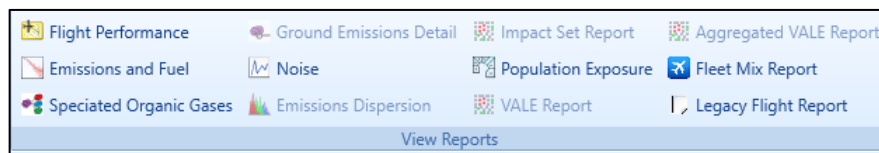

Figure 5-52 Ribbon Group – View Reports
3. The *Reports* ribbon group is displayed (Figure 5-52).
2. From the *View Reports* ribbon group, click *Flight Performance* (Figure 5-52). The graph is displayed.
2. From the *View Reports* ribbon group, click *Emissions and Fuel* (Figure 5-52) to open the report.
2. From the *View Reports* ribbon group, click *Speciated Organic Gases* (Figure 5-52) to open the report.